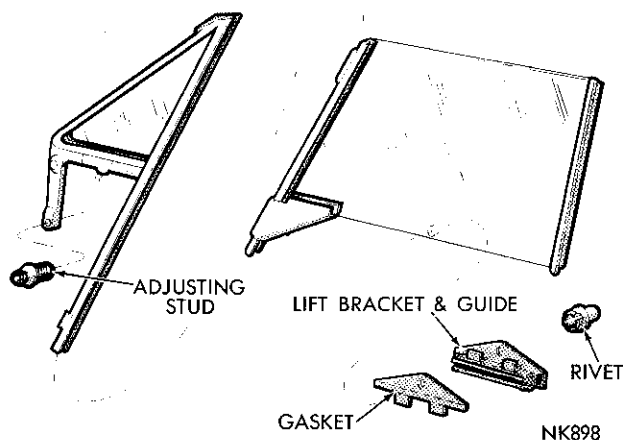

Fig. 76—Glass Lift Bracket (Chrysler Hard Top—Convertible)
vision bar (Fig. 76).
(1) Remove the inside handles, trim panel and watershield.
(2) Loosen the vent attaching screws and adjusting stud nut and move the glass forward out of the glass run channel.
(3) Remove the run channel reinforcement plate and the screw and washer assembly from the upper end of the run channel door face (Fig. 76).
(4) Disengage the support on the bottom of the channel from the door panel.
(5) Remove the channel from the door assembly.